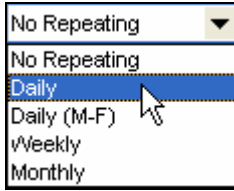

Figure 11.1.4
- Click on the pull down arrow to the right of the **Repeating:** box to select the frequency of the task. (Figure 11.1.4).